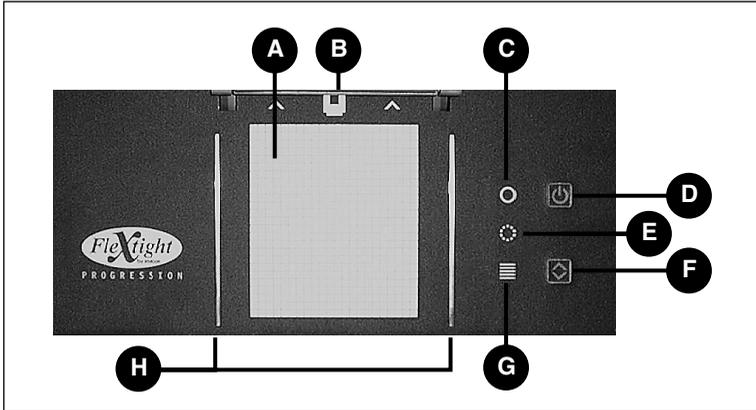
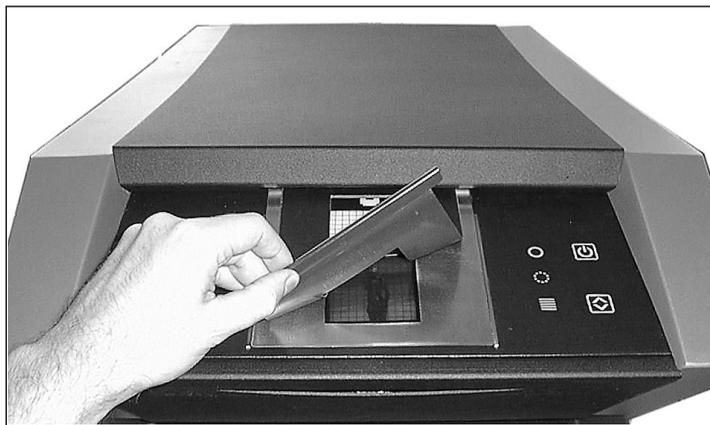

Figure 1: Front panel features
Figure 6: Mounting a transparency in a flexible original holder for drum scanning
11. Press the power button on the front panel (shown in Figure 1) to turn on the scanner. The green light starts flashing. This means that no firmware has been downloaded yet. It will be downloaded automatically later when you first run the ColorFlex software.
2. Press the drawer button (shown in Figure 1). The flatbed drawer opens automatically.
1. If the flatbed drawer is closed, press the drawer button (shown in Figure 1). The flatbed drawer opens automatically.
2. Place the original holder between the guide rails with the slotted tab facing into the scanner (see Figure 1 and Figure 6).
4. As shown in Figure 6, lift the top layer of the original holder and place your original with the emulsion side down. The original must completely fill the hole with no edges showing and with a minimum overlap of 2mm along each edge. Also, no edges of the original may extend past the outer edges of the holder. Use the light table to help position the image.